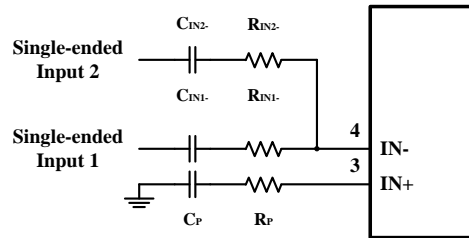

Figure 16 Application Circuit with Summing Two Single-Ended Inputs
The corner frequencies ( $f_{C1}$  and  $f_{C2}$ ) for each input source can be set independently by Equations (9) and (10). Resistor,  $R_p$ , and capacitor,  $C_p$ , are needed on the IN+ terminal to match the impedance on the IN- terminal (Figure 16). The gain for each input source can be set independently by Equations (4) and (5).